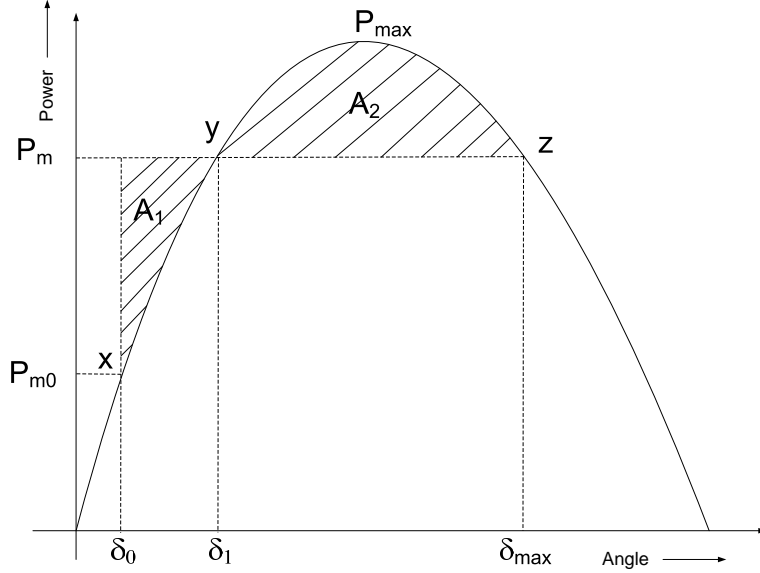

Figure 6: Power angle curve for sudden change in  $P_m$
For sudden change in input power stability can be found by using the stability criteria given by (21). Stability can be maintained only if we can find area  $A_2$  in the power angle curve such that (21) is satisfied. The maximum rotor angle  $\delta_{max}$  is given by the rotor angle corresponding to  $P_m$  for which  $\frac{\pi}{2} < \delta < \pi$  as shown in Figure 6.